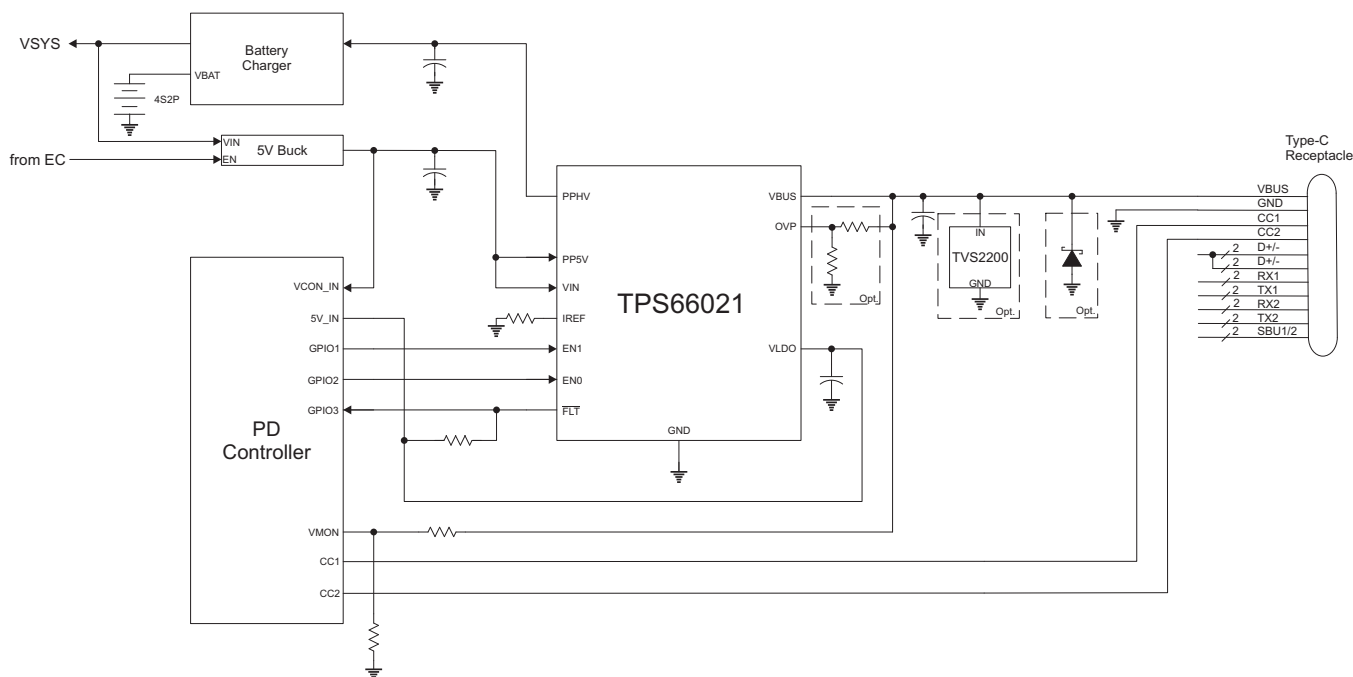
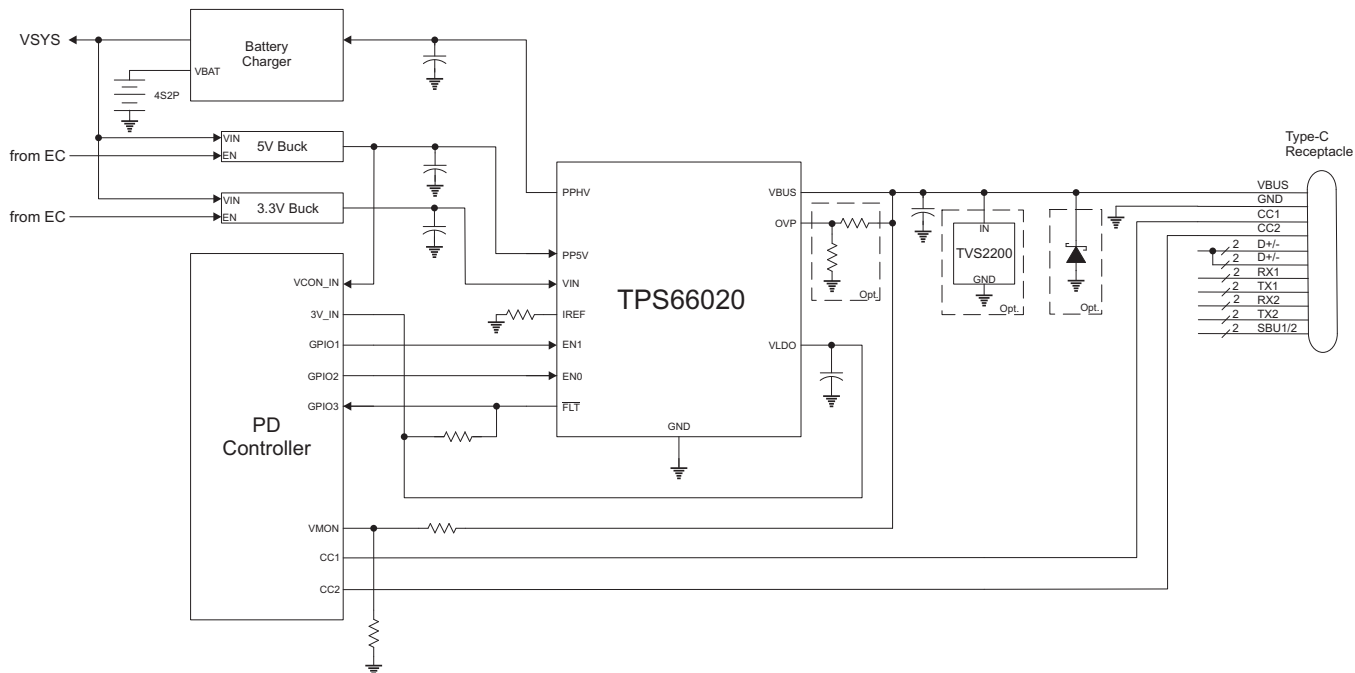

Figure 28. Single Port Type-C PD Port Using a Single 5-V Supply
Figure 29. Single Port Type-C PD Port Using a 3.3-V Supply
Figure 28 shows a USB Type-C single port design using a Power Delivery (PD) controller that supports 5-V operation. For this system, a single 5-V supply is used to supply power to the PP5V and VIN supplies of the TPS66021, as well as, the connector power, VCONN. The TPS66021 supplies power to the 5-V supply of the PD controller via its VLDO output which is sourced either from the integrated 5-V VBUS LDO for dead battery operation or from VIN once the dead battery condition ends.
Similarly, Figure 29 shows a USB Type-C single port design using a PD controller that only supports 3.3-V operation. In this case, a separate 3.3-V supply in the system is used to supply power to the TPS66020. The TPS66020 supplies power to the 3.3-V supply of the PD controller via its VLDO output which is sourced either from the integrated 3.3-V VBUS LDO for dead battery operation or from VIN once the dead battery condition ends.
The PPHV power path is a Sink. The capacitance on the PPHV shown in Figure 29 represents capacitance of the charger sub-system. In a typical application, this capacitance can be in the range of 47 μ F up to 100 μ F, far exceeding the 1- μ F minimum specification for the TPS6602x, so no external capacitance is required to meet this requirement in most cases. As per the PD Specification, the total capacitance on VBUS should be maximum 10 μ F at connection.
The TPS6602x integrates a high-voltage VBUS LDO that can be used to supply power to a PD Controller and other supporting circuitry when only VBUS power is available, such as in a dead battery condition. As shown in Figure 29, the TPS66020 VLDO output supplies power to the PD Controller's 3V_IN supply. Similarly, Figure 28 shows the TPS66021 VLDO output supplies power to the PD Controller's 5V_IN supply. During a dead battery condition, the PD Controller presents its Type-C RPD pull-downs on the CC1 and CC2 lines. Upon connection to a Type-C/PD Source, 5 V is provided to VBUS from the Source partner which powers the TPS6602x. The VBUS LDO is enabled and provides power to the PD Controller. Once powered, the PD Controller can decide to enable the TPS6602x PPHV Sink path by asserting EN0 high and use the 5-V VBUS to charge the battery or it may choose to negotiate a higher voltage contract first. Either way, once the contract is negotiated, the PD Controller will enable the PPHV Sink path and charge the system. Once the system is sufficiently charged, the VIN terminal will rise and will exceed the VIN UVLO threshold. If VIN remains above the UVLO threshold for t_{VIN_STABLE} , VLDO will be supplied from VIN and the VBUS LDO will be disabled.